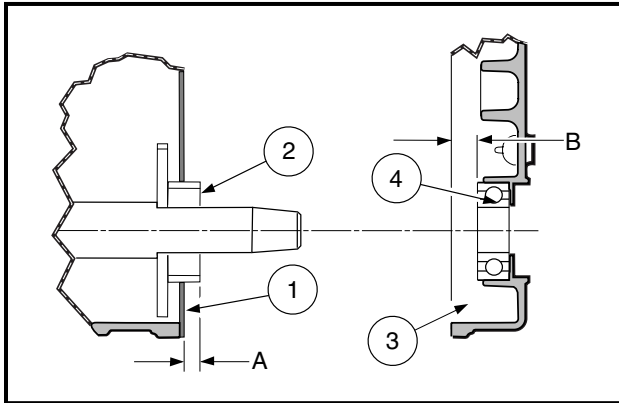

Figure 3-91 Determine Crankshaft Shim Size
2. Assemble the piston and the connecting rod into a unit, if disassembled. Align the L mark (1) on the piston head toward the lettering MADE IN JAPAN (2) on the connecting rod (**Figure 3-91, Page 3-42**).
1. With the gasket installed on the crankcase, measure from the gasket surface (1) to the helical gear surface (2). Record measurement (A) (**Figure 3-91, Page 3-42**).
2. Measure from the crankcase cover (3) mounting face to the crankshaft bearing inner end (4). Record measurement (B).